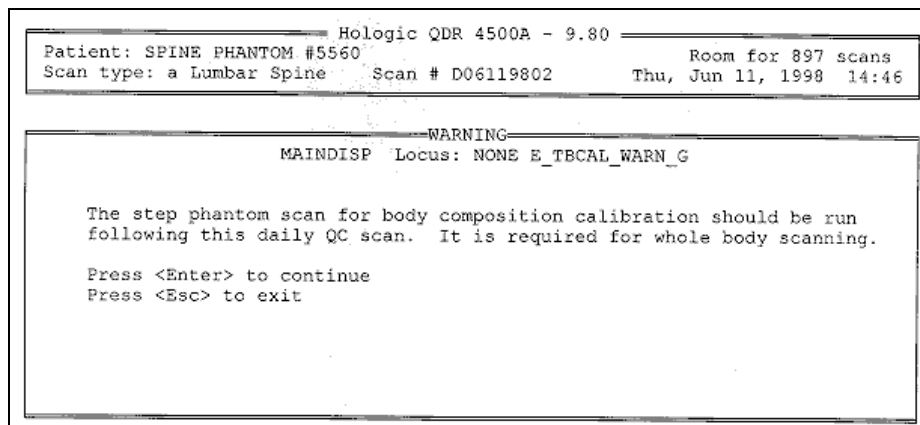

Figure 6-3. Warning message for step phantom
- Read the messages on the Hologic computer screen. (If the step phantom hasn't been scanned in the past week, a message will be displayed stating that it should be scanned following the spine phantom scan.) See Figure 6-3.